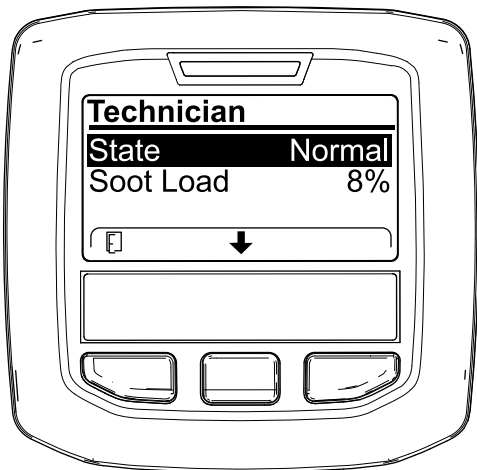

Figure 9
- Use the DPF operation table to understand the current state of DPF operation (Figure 9).